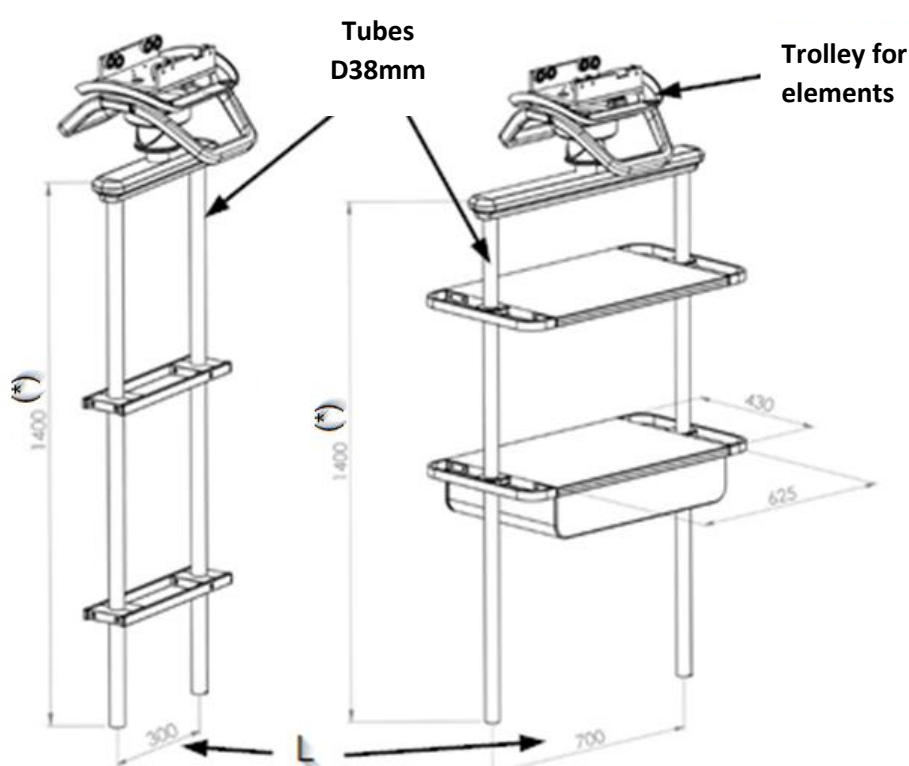
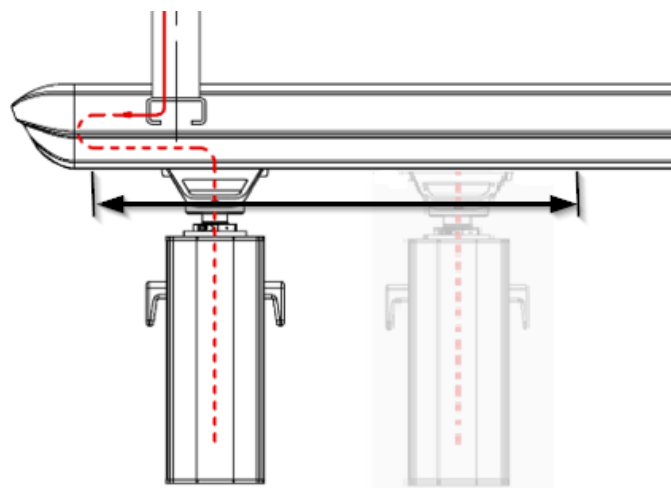

Fig. 6 Trolley detail for ABITUS
Fig. 8 Displacement of a carousel on ABITUS main body
Movable element that moves along a defined length within an ABITUS section with two 38mm diameter structural tubes on which other accessory elements can be supported. The distance between the tubes (L) can be 300mm, 500mm and 700mm. Figure 6 shows the 300mm and the 700mm variant.
In the example in figure 6 you can see two sets of technical rails on the structural tubes (picture on the left in figure 6) and two trays, one with individual drawers (picture on the right in figure 6). The standard length of the tubes is 1400mm, for special lengths please contact the manufacturer.
A movable element that moves along a defined length within an ABITUS section and supports service heads and their accessories. These can be attached directly to the carousel (left image in figure 6) or
via a 0.6m extension arm (right image in figure 6). The stroke of this carousel is defined by placing stops to limit its displacement and thus prevent it from coming into conflict or colliding with other elements of the room or the ABITUS equipment itself. See figure 8.